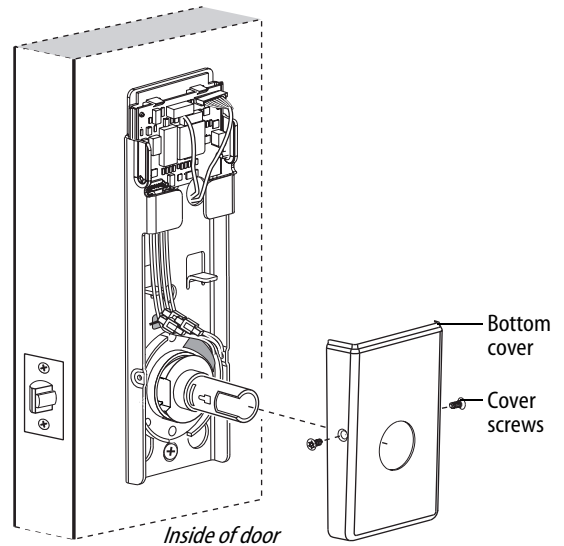

Figure 18 Installing the bottom cover
- 2 Use two cover screws to secure the cover to the side of the fire plate, as shown in Figure 18.